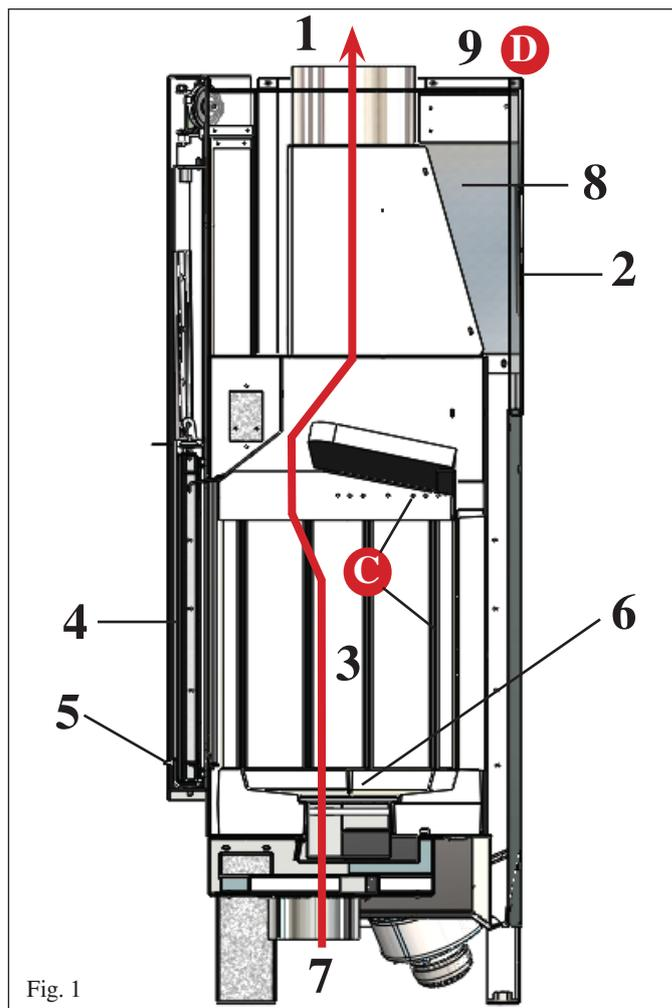
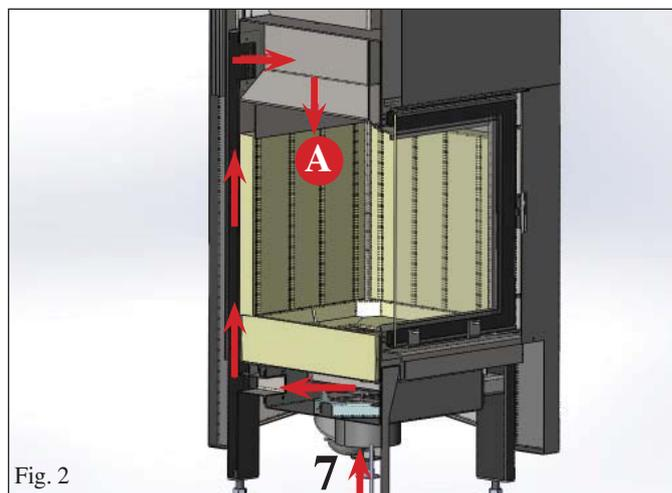

Fig. 1
Fig. 2
Primary air for combustion (A - Fig. 2) and glass cleaning vetro enters through a duct (7 - Fig. 1), from the lower part of the fireplace, it heats up when passing on the sides of the combustion chamber, and leaves from the duct located in the top part of the combustion chamber.
The post-combustion air (C) enters the combustion chamber through the holes located inside the combustion chamber. The air is taken up, through a duct (7 - Fig. 1), from the lower part of the fireplace, is heated during its flow through the back of the combustion chamber, due to the strong irradiation to which it is subjected, and exits from a series of holes.
KEY: (fig. 1)